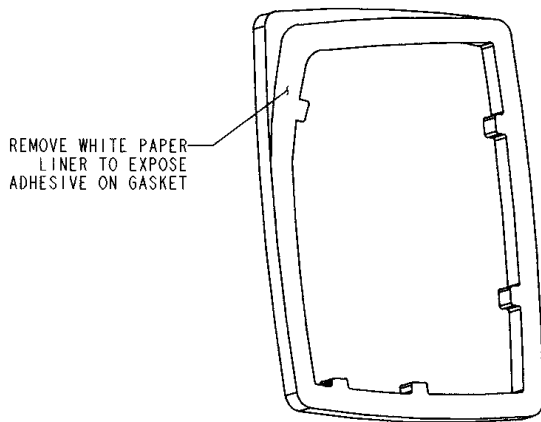
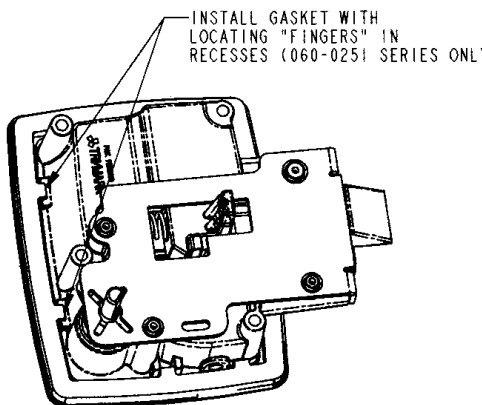

Fig. 3
Fig. 4
ASSEMBLY INTO DOOR (Figs. 3 thru 8)
A. Gasket. Remove adhesive liner from gasket (Fig. 3). Apply gasket with adhesive side against flange of outside paddle assembly by pressing gasket around the underside of the flange (Fig. 4). A recess is provided around three edges of the flange and partially on the other edge of the flange for the gasket to fit in. Take care not to let the outside edge of the gasket extend outside the flange.